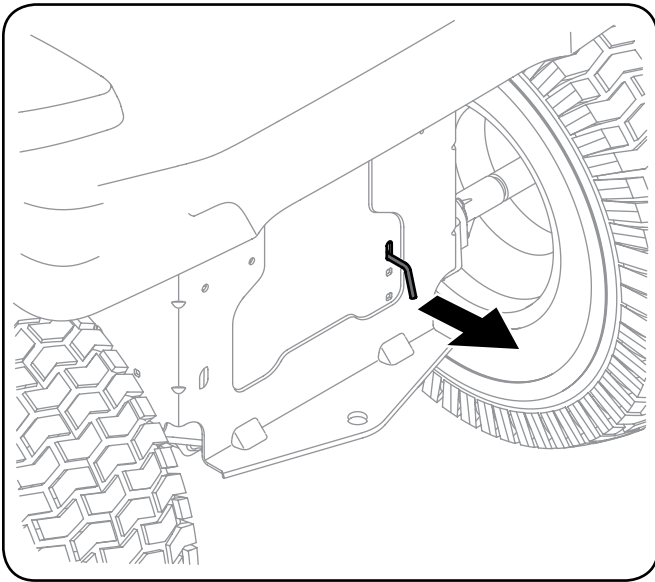

Figure 1
1. Engage the transmission bypass rod to move the tractor manually without starting it. The transmission bypass rod is located on the rear of the tractor, on the frame. Engage the bypass rod by pulling out. See "Figure 1".
2. Disengage the bypass rod by pushing the rod back in after moving the tractor. See "Figure 1".